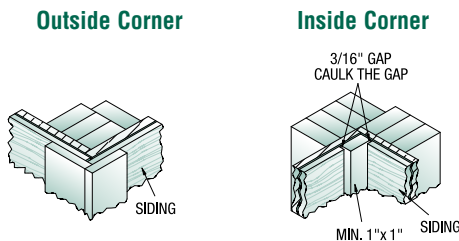

FIG. 3
- Gap the siding at all corners 3/16" and caulk. See Fig 3.
- At corners, use TruWood Trim as shown in diagram. *See Fig 3.* Make sure all gaps are caulked.